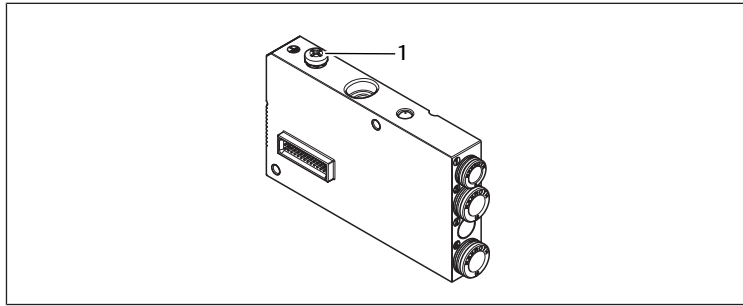

Fig. 9: FE connection, HF04/HF04XF
- With an HF04-/HF04XF valve block, connect the FE connection (1) on the valve block to the functional grounding via a low-impedance line to discharge EMC interferences. See → Fig. 9.